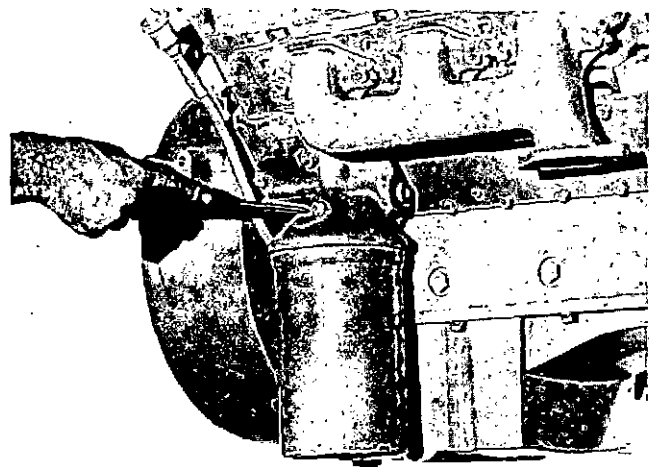

Fig. 2-1, V11466. Lubricating system priming point
2. Remove pipe plug from lubricating oil filter head (1, Fig. 2-1).